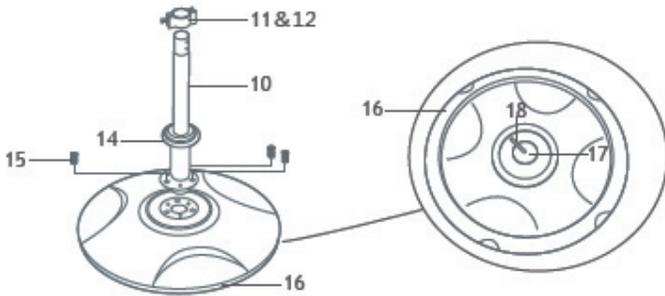

Fig. 1
Raise the footstand screw cover (14). Loosen the screws (15) on the footstand (16). Connect the lower tube (10) to the footstand, by installing the washer (17) on the footstand and then tightening the screw (18). Then retighten the 3 screws (15) firmly. Replace the screw cover (14) to conceal the screws (see Fig. 1).